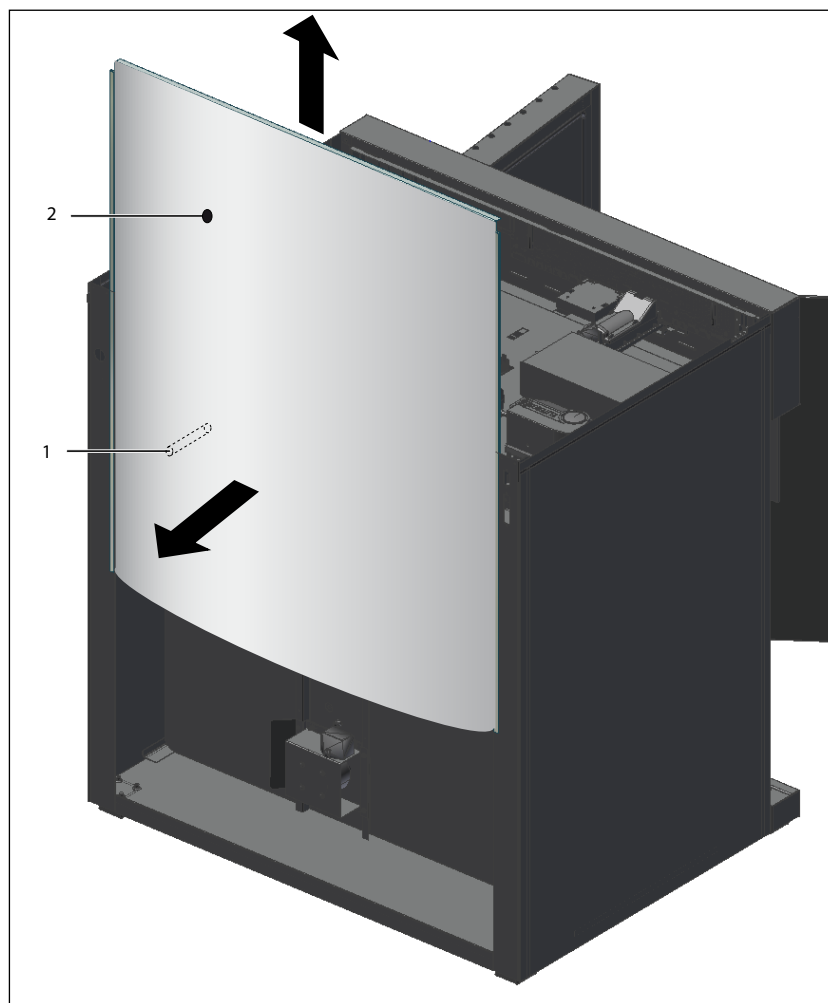

Fig. 3 Removing the rear panel
4. Pull rear panel upwards out of the appliance. For the INCO CO₂ incubator, pull away the rear panel slightly from the appliance so that it is not caught by the ventilation pipe (Fig. 3). Make sure that the rear panel does not jam when pulling out.
1. Insert rear panel carefully from above into the guide rails and push downwards until they slot into place. Make sure that the rear panel does not jam and is not scratched by the ventilation pipe that sticks out of the rear of the appliance (Fig. 3).